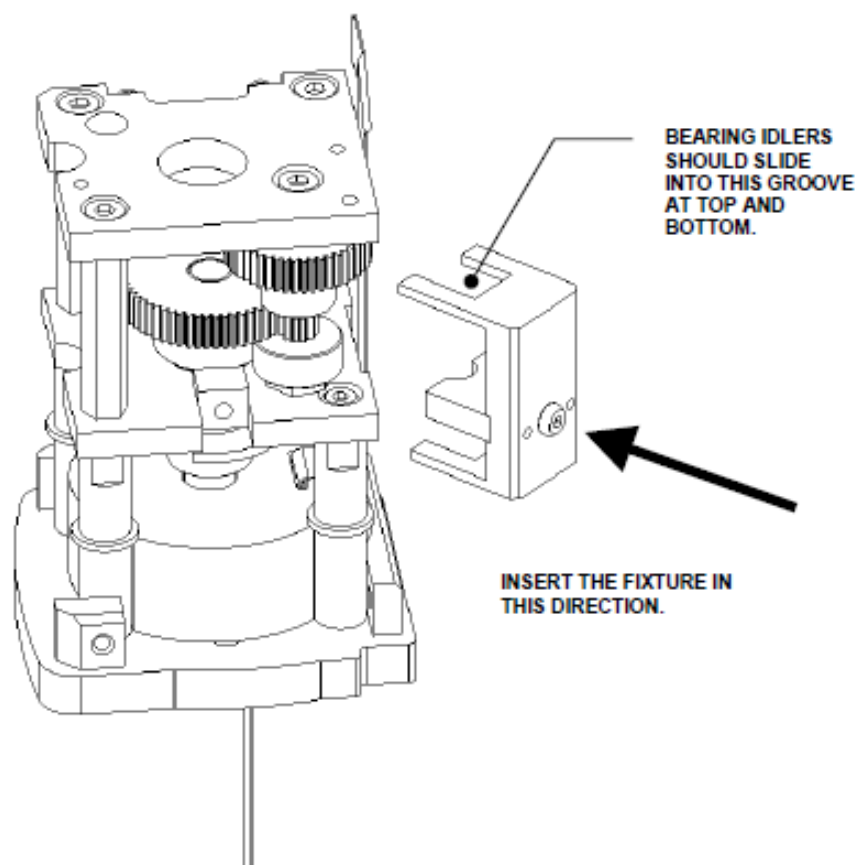

Figure R-14: Inserting the Rotator Gearing Fixture
6. Insert the Rotator Gearing Fixture (P24FIX048) into the Rotator assembly so the Bearing Idlers at the top and bottom of the Transmission Gear are held between the flat sections of the fixture as shown (Figure R-14).